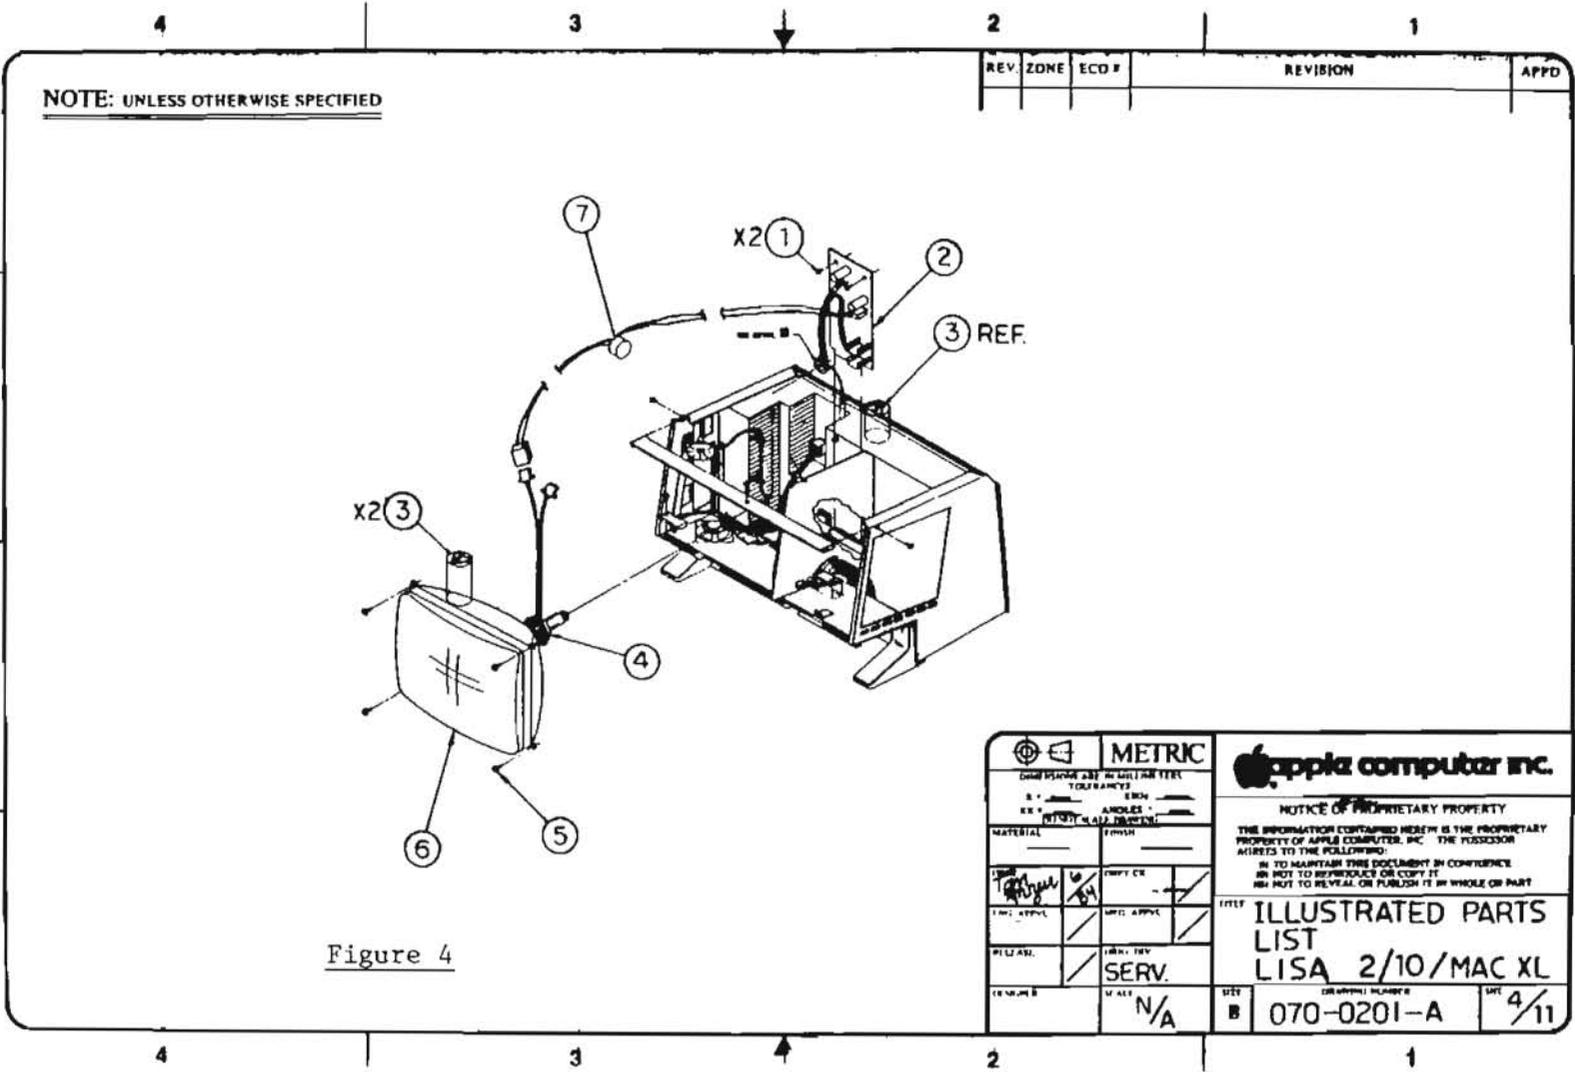

Figure 4
**MACINTOSH XL VIDEO ASSEMBLY (Figure 4)**